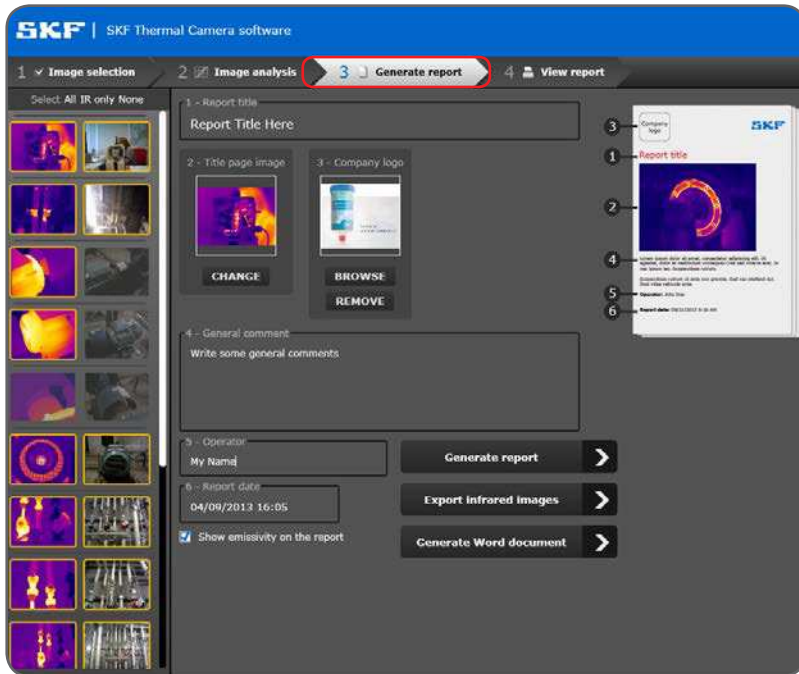

Figure 18 Generate Report view
- Click on the tab “3 Generate Report” highlighted in red on Figure 18.